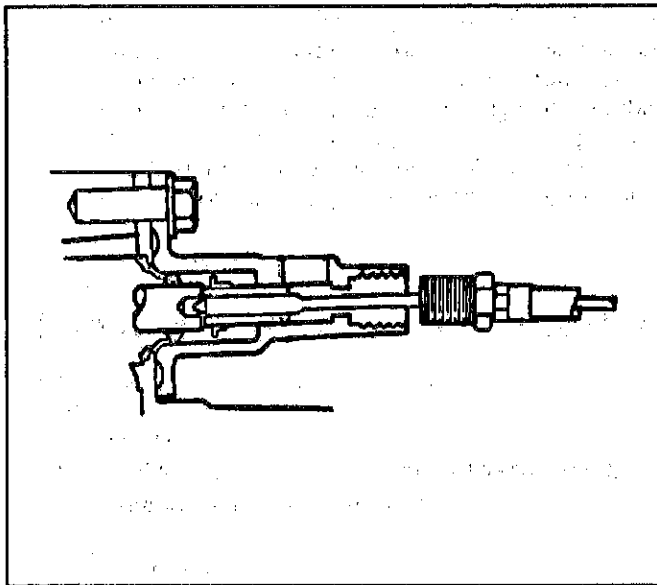

Figure 20—Connecting the Shift Cable to the Carrier
- B. Guide the cable end through the hole in the shift cable housing (Figure 20).